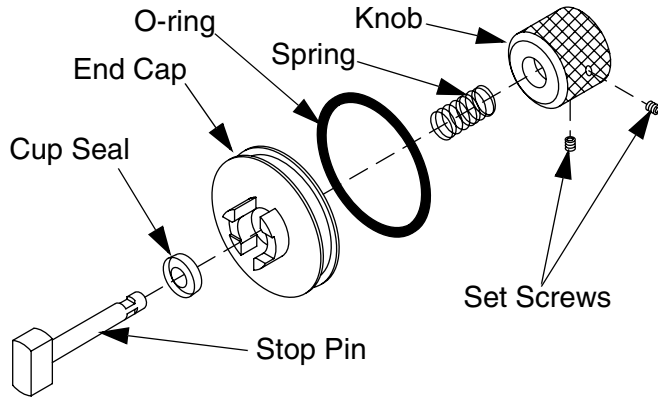

FIG. 17: End Cap/Safety Stop Assembly
- c. Pull shaft out of end cap (FIG. 17).